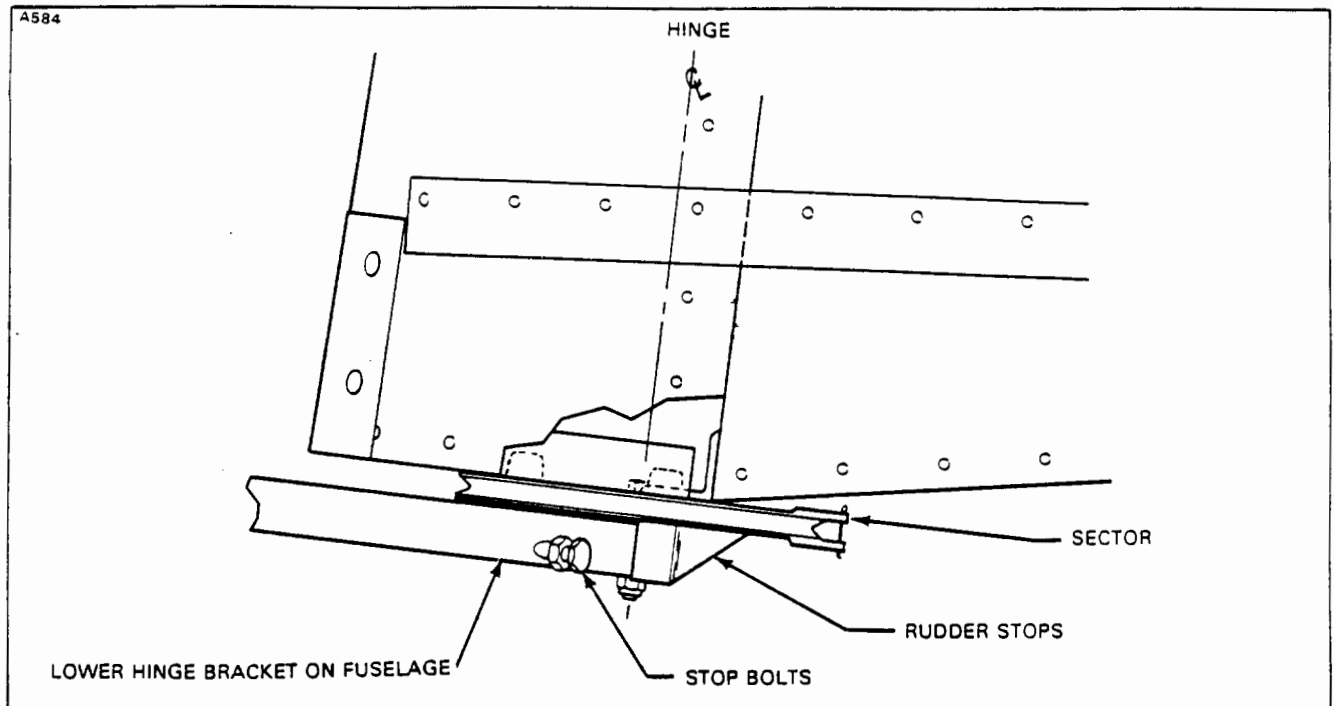

Figure 27-9. Rudder Travel Adjustments
- D. Should the rudder travel be incorrect showing a gap between the tool and any part of the control surfaces, the fairing should be removed and the stops reset to obtain correct rudder travel. (Refer to Figure 27-9.)